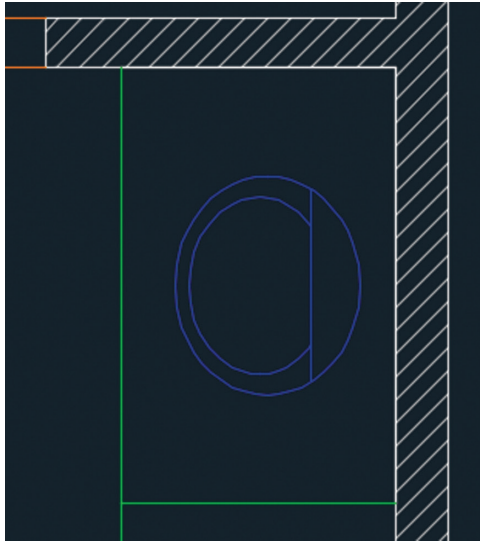

FIGURE 2.5 Directing navigation by positioning the cursor over the bathroom sink while zooming
11. To see everything that has been drawn, you can use the Extents option of the ZOOM command or, better yet, use this special shortcut: Double-click the mouse wheel. Position the cursor over the bathroom sink and roll the mouse wheel forward to zoom in. Notice that the view stays centered on the sink without your having to pan (see Figure 2.5). Drag the mouse wheel to make slight panning adjustments if necessary to center the target object onscreen.